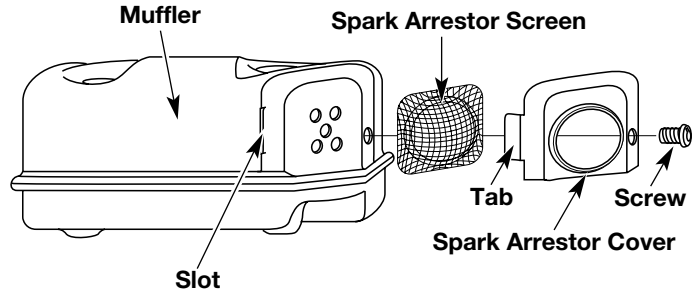

Fig. 56
2. With a flat blade screwdriver or Torx T20 bit, remove the screw attaching the spark arrestor cover to the muffler (Fig. 56).